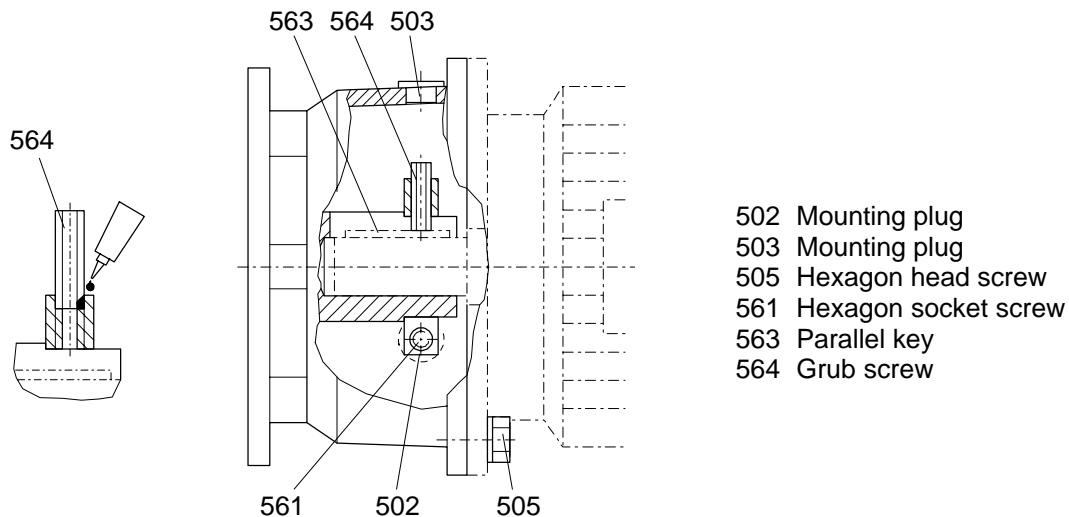

Figure 6.6.2
- Remove mounting plugs pos.502 and pos.503.
- To fasten the clamping ring align input shaft and clamping ring of the gear unit to the mounting bores pos.502 and pos.503 by rotating.
- Moisten grub screw pos.564 by adhesive compound (medium strength, e.g. Loctite 243) see Fig. 6.6.2.
- Flange motor to coupling lantern and fasten it by means of screws pos.505 according to the prescribed torque, see table 10.2.5.